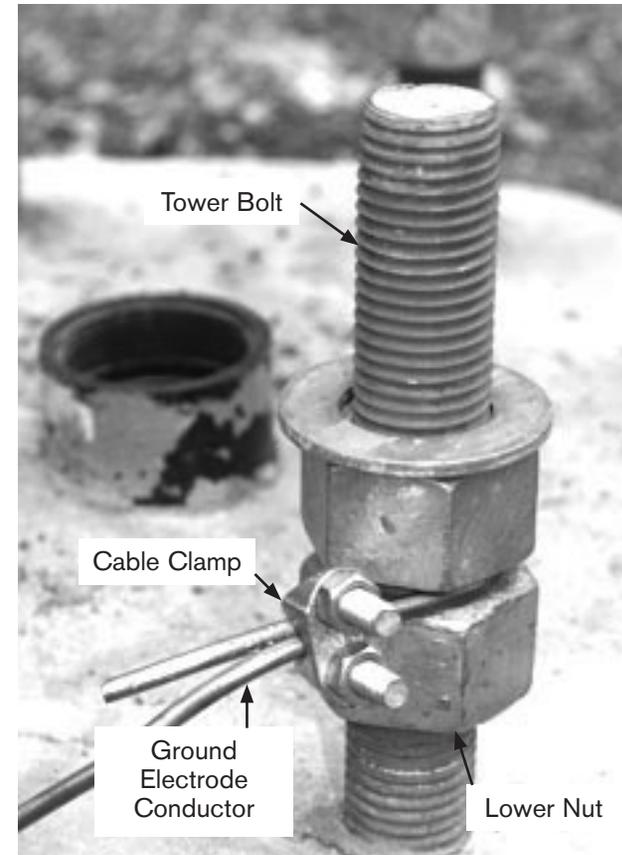

Fig. 3 Tower foundation bolt.
- c) Take one end of the grounding conductor and loop it once around the tower bolt containing the extra nut, between the upper and lower nut. Generously apply joint compound to the grounding conductor and cable clamp in the area of attachment. Secure the conductor with a cable clamp around the loop so that it just clears the tower nuts and keeps the loop snug around the tower bolt (see fig. 3). The cable clamp is required so that the ground wire does not slip out from between the nuts when the lower nut is tightened.
- d) Ensure that surfaces of the lower and upper nuts facing each other are free of dirt and have very clean surfaces. If necessary, wash and clean these surfaces. This is essential for a good electrical connection between the ground conductor and the tower. Tighten the lower nut towards the upper nut applying sufficient torque (50 lb-ft or 68 N·m minimum) to securely clamp the grounding wire (see fig. 3).